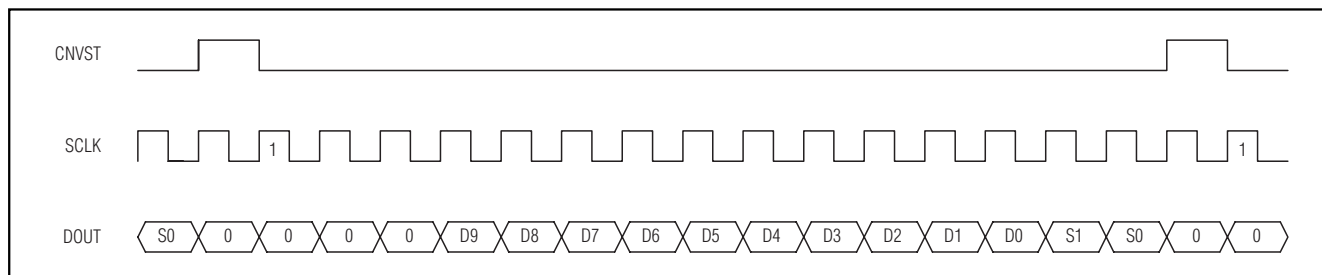

Figure 17. DSP Interface—Continuous Conversion
The MAX1070/MAX1071 can also be connected to the TMS320C54\_ by using the data transmit (DX) pin to drive CNVST and the CLKX generated internally to drive SCLK. A pullup resistor is required on the CNVST signal to keep it high when DX goes high impedance and 0001hex should be written to the DXR continuously for continuous conversions. The power-down modes may be entered by writing 00FFhex to the DXR (see Figures 17 and 18).
registers should be configured for late framing (LAFR = 1) and for an active-low frame (LTFS = 1, LRFS = 1) signal. This is also the best way to enter the power-down modes by setting the word length to 8 bits (SLEN = 1001). Connect the  $V_L$  pin to the ADSP21\_ \_ \_ supply voltage when the MAX1070/MAX1071 are operating with a supply voltage higher than the DSP supply voltage (see Figures 17 and 18).